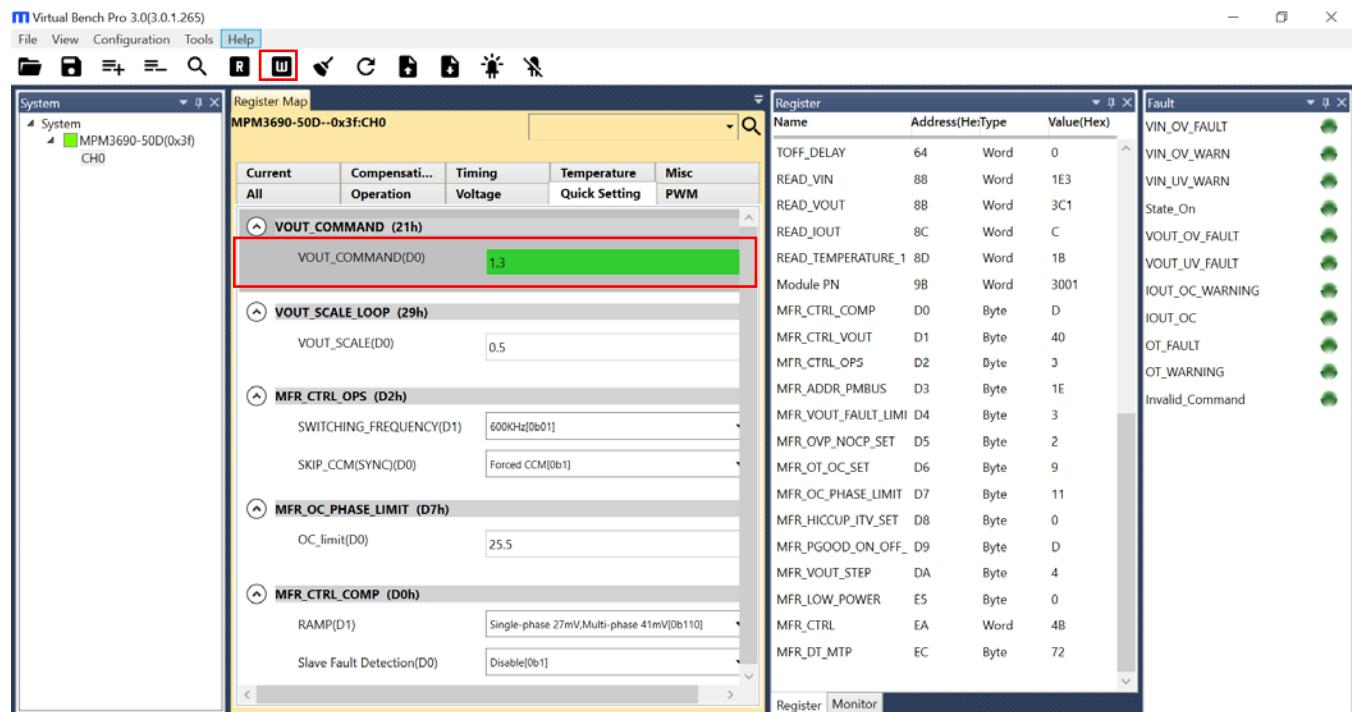

Figure 6: Write Values to Register
7. Click the “Write to chip” button to write the desired values to the register (see Figure 6).